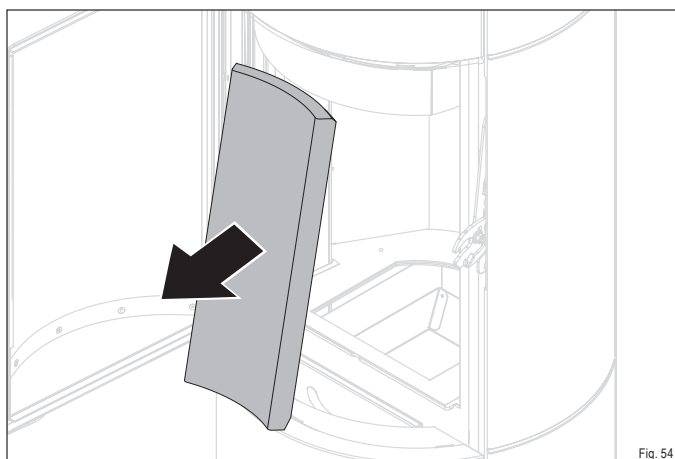

Fig. 54
- ▶ Remove the back firebrick (Fig. 54).